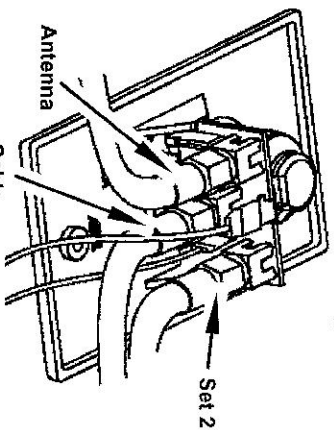
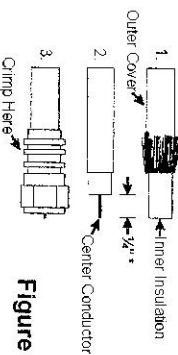

Figure 4
Figure 5
**STEP 4.** Install connectors on downlead and set 2 cables as shown in Figure 5. Attach downlead cable to jack on wall plate/power supply marked antenna as shown in Figure 4. Attach cable going to set 2 outlet to jack on power supply marked SET 2. Attach cable coming from cable input to jack on power supply marked CABLE.